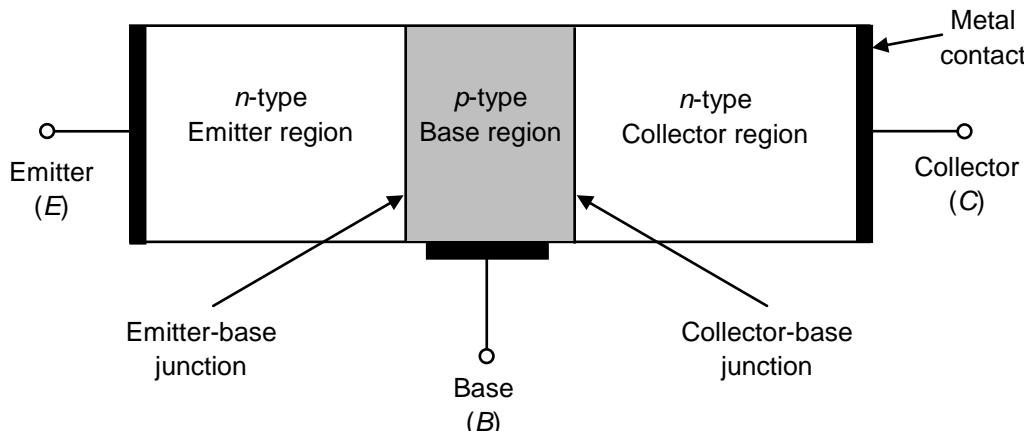

Fig. 3.2: Structure of an *n-p-n* transistor.
So, in a bipolar junction transistor, there are **three regions doped alternately** by *n*-type and *p*-type impurities to create an *n-p-n* or a *p-n-p* type of structure. Fig. 3.2 shows the structure of an *n-p-n* transistor.
The three regions (*n*, *p* and *n*) shown in Fig. 3.2 are called **emitter** (*E*), **base** (*B*) and **collector** (*C*), respectively. So, the BJT is a **three-terminal device** with the electrical contact terminals attached to the emitter, base and collector. Sometimes, this is indicated by the letters E, B and C marked on the transistor.
The emitter, base and collector regions in a transistor are doped differently and have different widths. The emitter is doped heavily because its role is to ‘emit’ or inject charge carriers into the base region. The base region is lightly doped and is made very thin so that the heat loss due to recombination of charge carriers in it is reduced. The collector’s doping levels lie between those of the emitter and the base. The collector is the largest of the three regions because it collects the charge carriers and has to dissipate more heat than the emitter or base. As you can see in Fig. 3.2, the transistor has two *p-n* junctions – one *p-n* junction is between the emitter and the base and the other *p-n* junction is between the base and the collector:
- a) Draw a labelled diagram showing the structure of a *p-n-p* transistor in the manner shown in Fig. 3.2 for an *n-p-n* transistor.